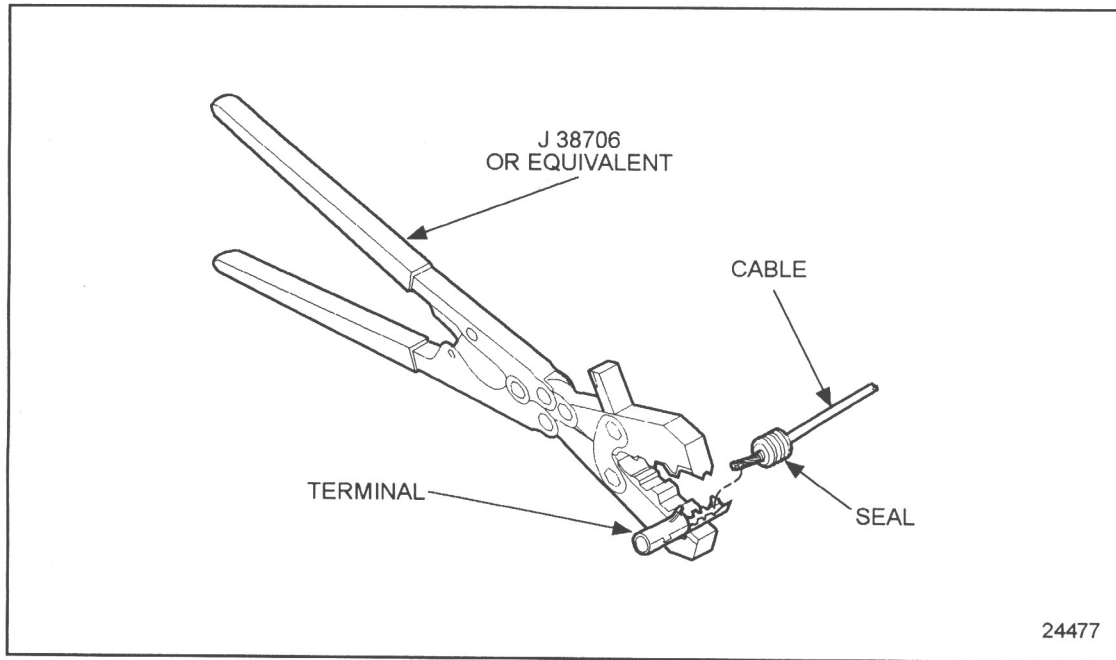

Figure 8-7 Terminal Position
1. Insert the terminal into the locating hole of the crimping tool using the proper hole according to the gage of the cable to be used. See Figure 8-7.